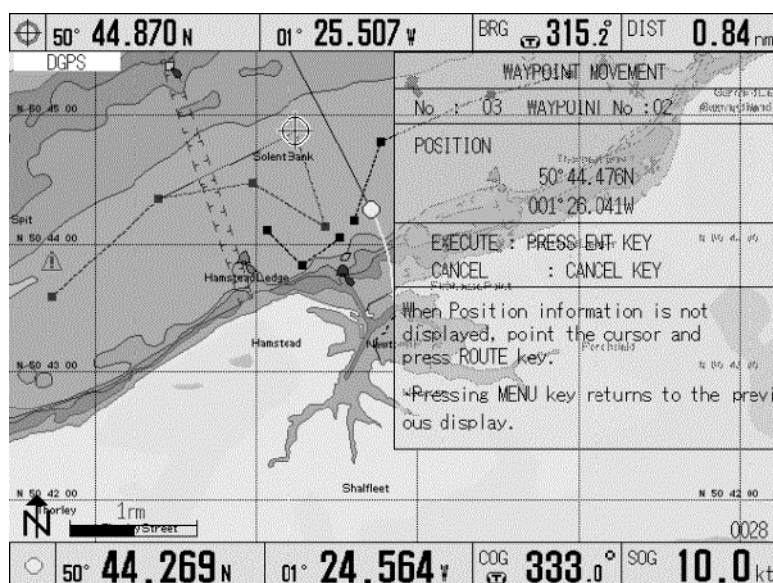

Figure 7.24 WAYPOINT MOVEMENT window (2)
- (12) Use the Joystick to move the waypoint to a desired point. (Figure 7.24)
- (13) Press the ENT key to fix the position.
- (14) To return to normal display, press the MENU key 5 times.